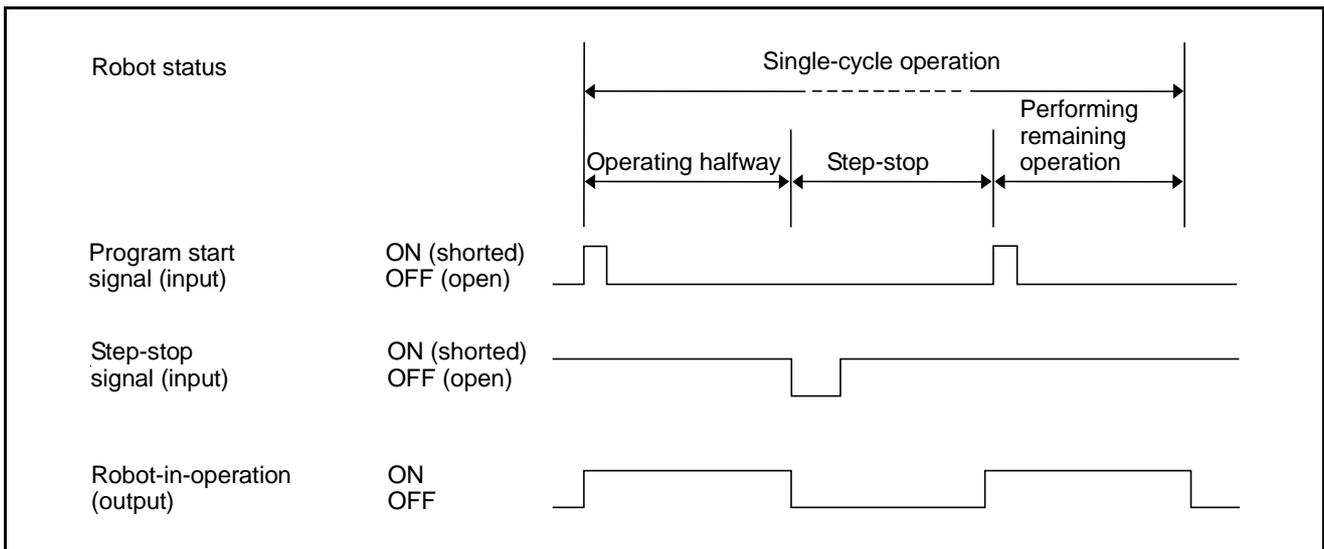

Figure 5-47 Step Stop Signal
- ① If the status of this signal is changed from ON (shorted) to OFF (open), the robot will stop all tasks immediately after the ongoing step is completed, and the Robot-in-operation signal will be turned OFF. However, External Auto mode will remain valid, and the suspended program will be resumed by inputting a program start signal. See Figure 5-47.
- ② Turning OFF (open) this signal when inputting a program start signal makes the robot stop step by step.
- ③ Internal operation with the teach pendant is valid only when the status of this signal is changed from ON (shorted) to OFF (open).
- ④ For resuming the program after a step stop, refer to Chapter 5 "5.5.4.4 Program Start (Input)".